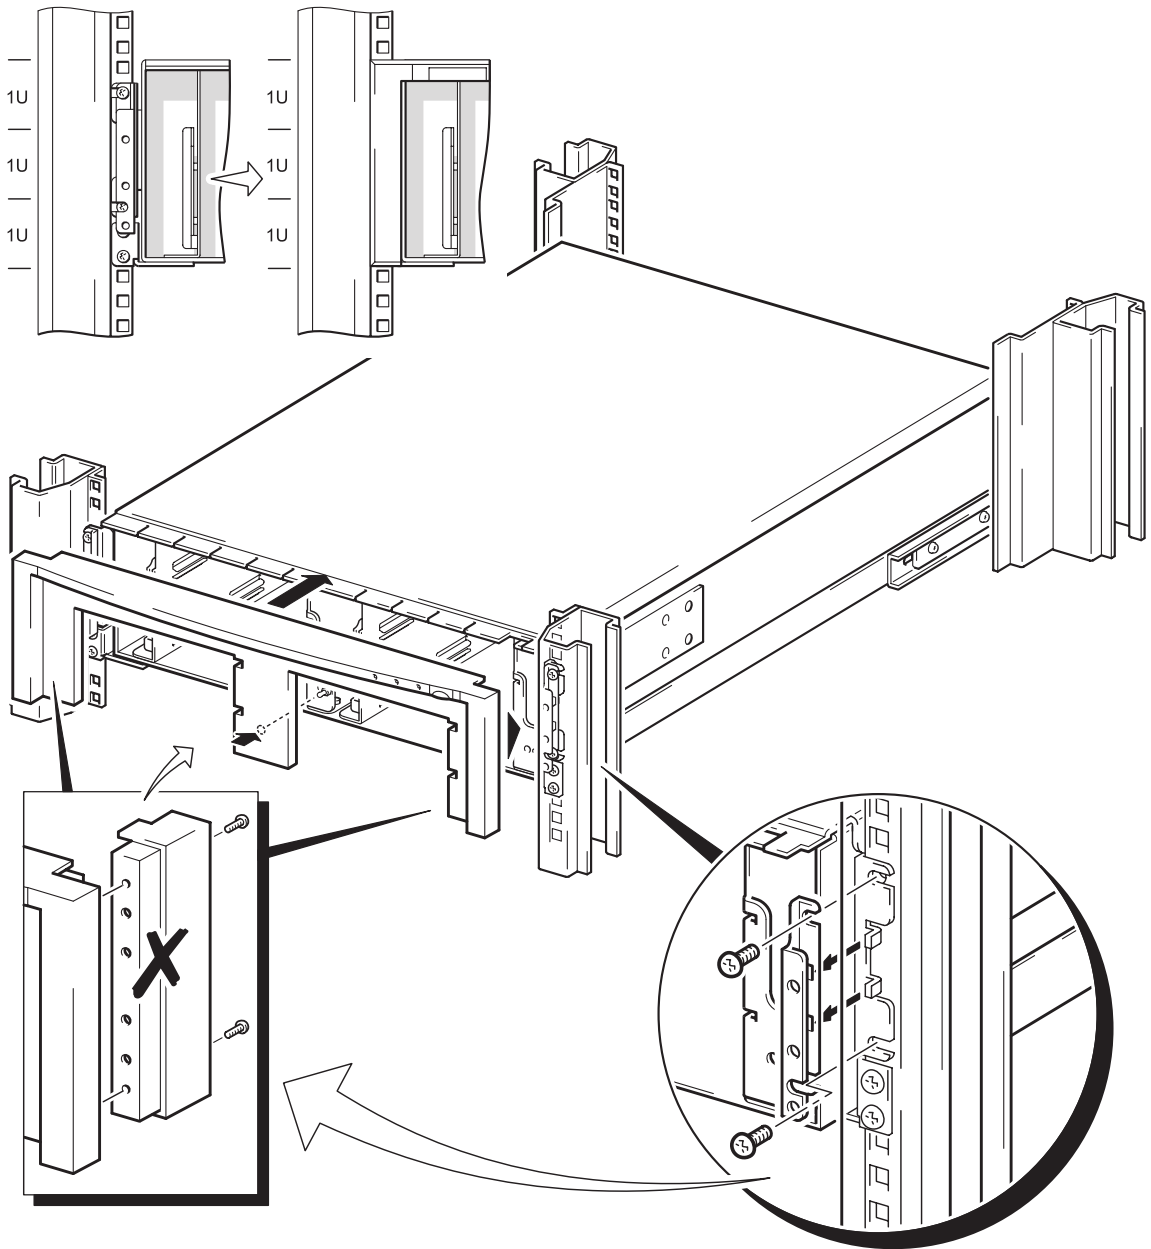

Figure 5b: Install the front bezel (square hole profile)
- 2 Turn a bezel bracket so that the stamped letter is correctly orientated and is facing the front, and the indents face outward towards the side of the rack as shown on Figure 5b.
The two rectangular holes on the bezel bracket hang on the two teeth of the side mounting brackets, as shown in Figure 5b.